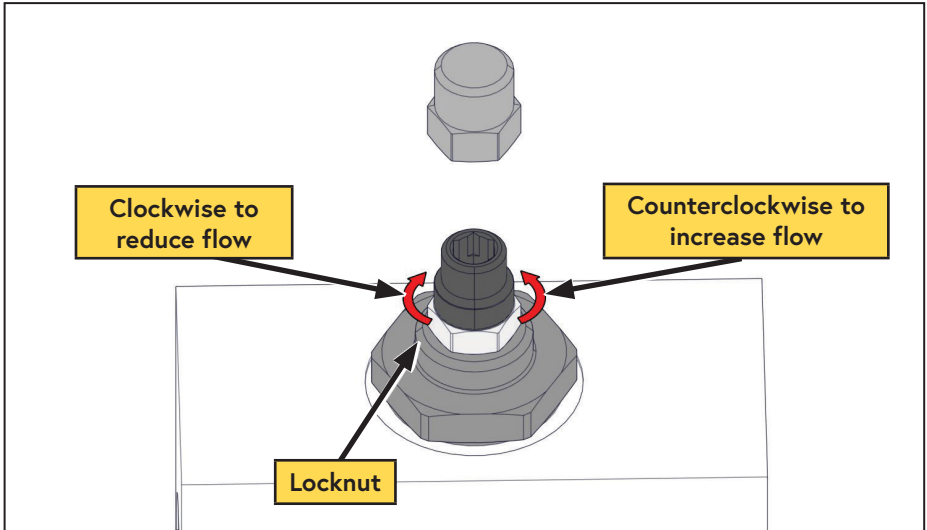

Figure 34 — Adjust priority valve
- ☐ Loosen the adjustment locknut (Figure 34).
- ☐ Adjust the priority valve to the desired flow rate via the adjustment spigot (counterclockwise to increase flow, clockwise to decrease flow) (Figure 34).